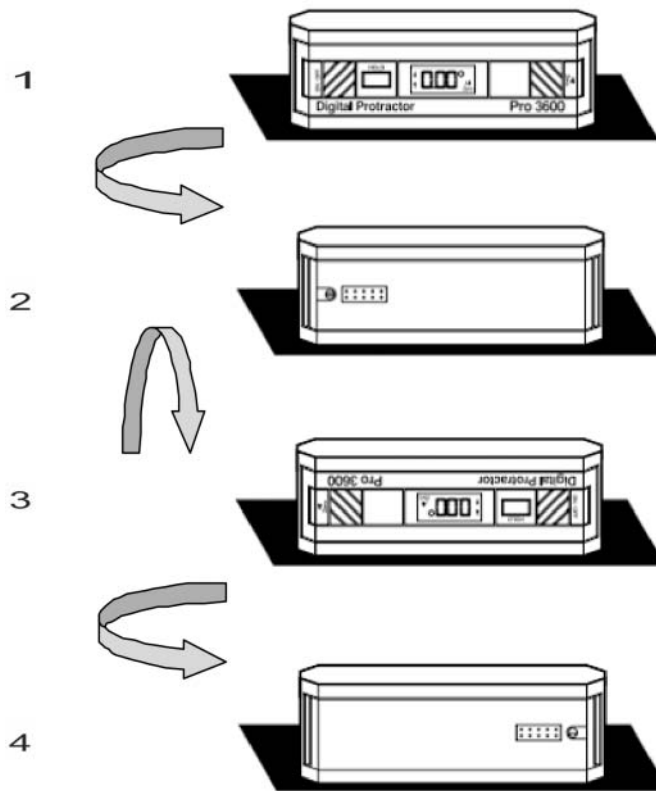

Figure 91
- ⇒ **Figure 91-Step 1-** – Position the camber scales on a level surface with the display facing in your direction. The surface does not need to be exactly horizontal. Switch on the camber scales and wait for 10 seconds. Note the value displayed.
- ⇒ **Figure 91-Step 2-** – Turn the camber scales horizontally by 180 degrees (display is pointing away from you). Wait 10 seconds and take note of the value displayed.
- ⇒ **Figure 91-Step 3-** – Now turn the vertical camber scale by 180 degrees (display points in your direction, balance is overhead). Wait 10 seconds and take note of the value displayed.
- ⇒ **Figure 91-Step 4-** – Finally, turn the camber scales once again horizontally by 180 degrees (display is pointing away from you, scale is still overhead). Wait 10 seconds and record this value.